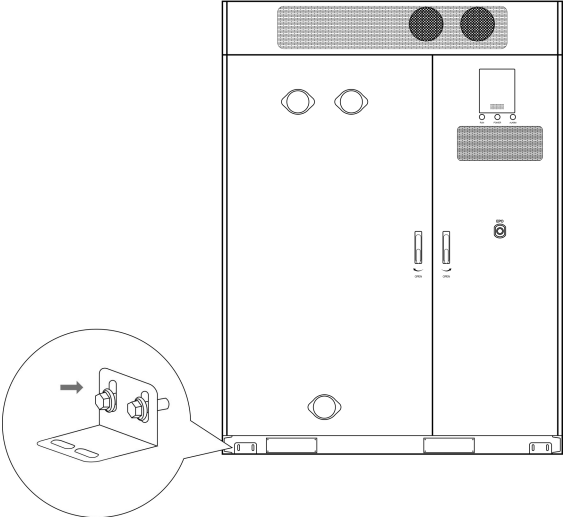

Figure.2-1
2. If your product is shipped with 4 L-shaped angle steels, fix them to the cabinet using 8 screws(M10*25) with 30N·m torque. (Figure.2-1&Figure.2-1)